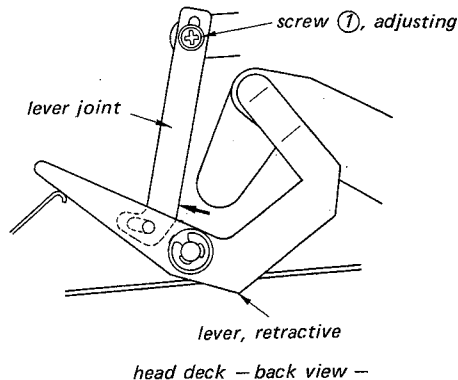

Fig. 8-7 Pinch roller stroke adjustment
- (3) Fix the screw ① while pushing the lever joint in the direction shown by arrow in Fig. 8-7.